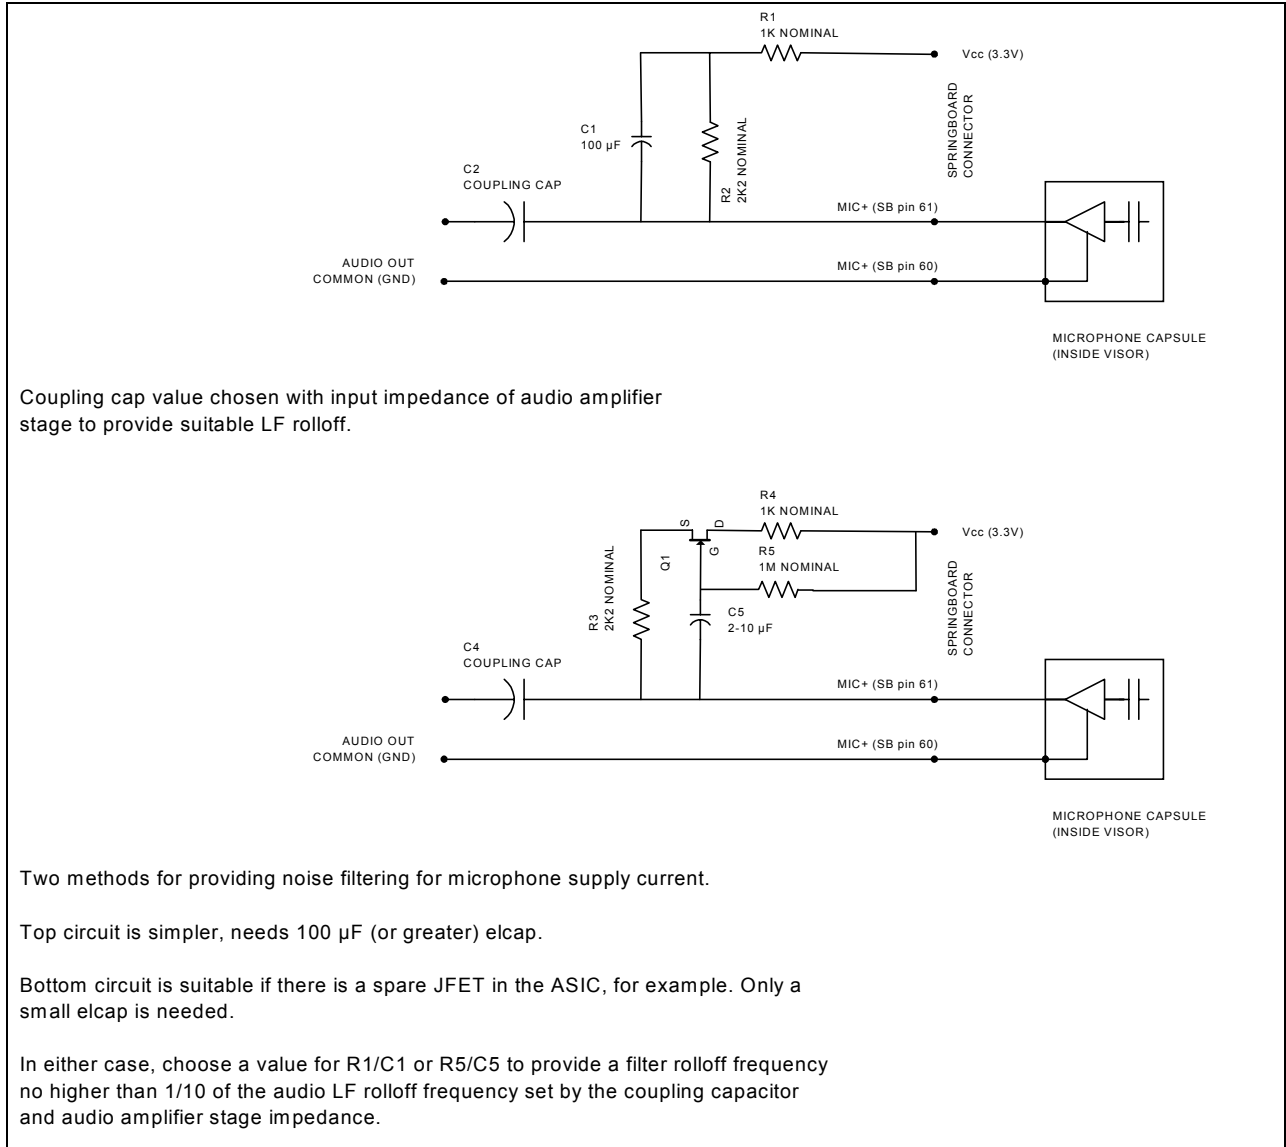

Figure 1
The circuit in Figure 1 is normally used to provide power to and take output from the microphone. The component values are not critical. Output level will vary somewhat with supply voltage and loading. The specified output level should be reached with the component values shown and a load impedance of >20Kohms.
The 3.3 volt power from the Handspring Visor Deluxe Springboard connector has several tens of millivolts of noise riding on it and cannot be used to power the analog circuitry or the microphone directly. The analog circuitry may have some inherent power supply noise rejection, but it is very important for the developer to characterize the contribution of each part of the circuit to the total noise budget, in order to stay below the recommended 40 dB(A) maximum. The microphone requires less than 0.5 mA of current, and the voltage can be as low as 1.8 V, so a simple RC network consisting of a 1K resistor and 100 μF capacitor as shown in Figure 1 is usually sufficient to keep the noise level down. Once again, the noise on the power supply line may vary greatly, depending on the other devices inside the Springboard module being developed. Because of this, it is important to characterize the noise and filtering characteristics of the circuit being designed.